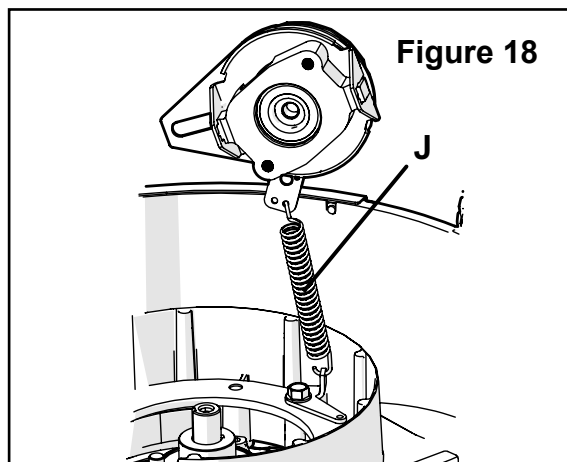

Figure 18
1. Connect spring **J** to the engine mounting ring and to the clutch actuation lever. **Figure 18**